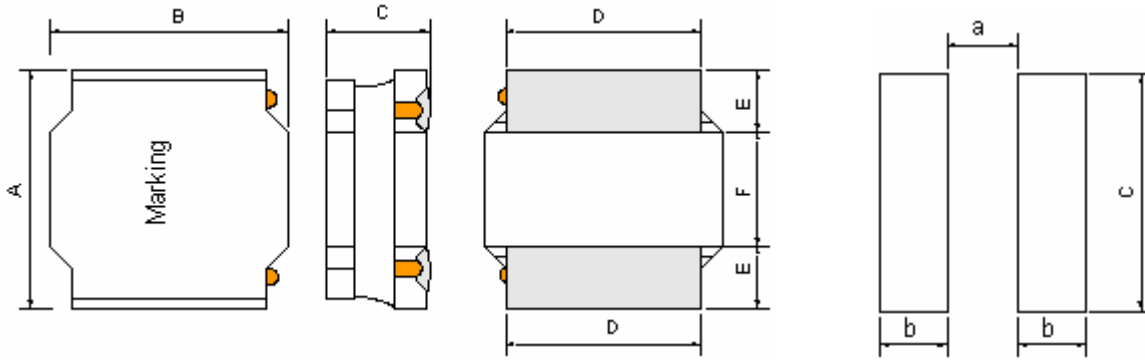
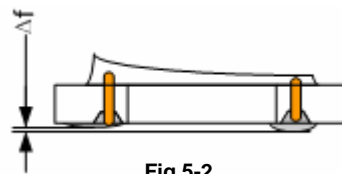

Fig.5-1,
Fig.5-2
Dimensions and recommended PCB pattern for reflow soldering, please see Fig.5-1, Fig. 5-2 and Table5-1.
| 8.2 Resistance to Flexure | No visible mechanical damage.  <p>Fig.8.2-1</p> | ① Solder the chip to the test jig (glass epoxyboard) using eutectic solder. Then apply a force in the direction shown as Fig.8.2-1 . ② Flexure: 2mm ③ Pressurizing Speed: 0.5mm/sec ○ Keep time: 30±1s ⑤ Test board size: 100X40X1.0 ⑥ Land dimension: Please see Fig.5-1 |